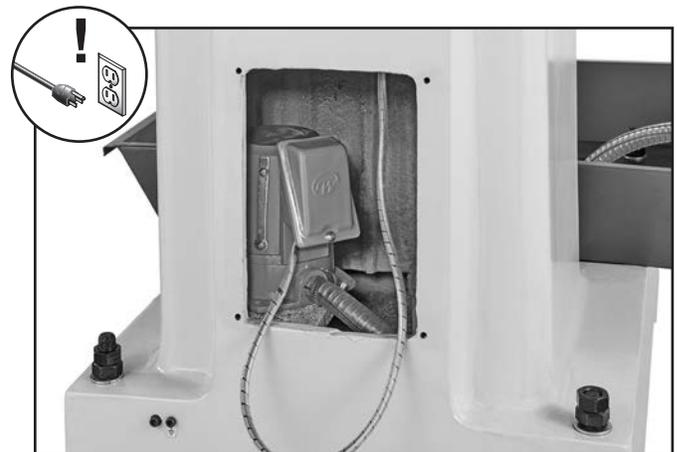

Figure 49. Location of coolant pump.
4. Remove coolant reservoir access panel (see **Figure 49**) from rear of column.